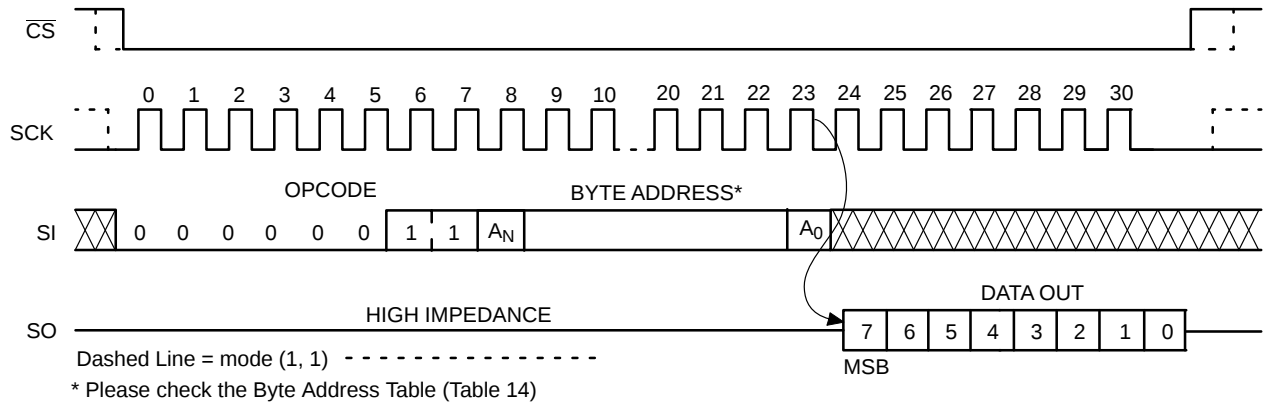

Figure 9. READ Timing
After receiving the last address bit, the CAT25256 will respond by shifting out data on the SO pin (as shown in Figure 9). Sequentially stored data can be read out by simply continuing to run the clock. The internal address pointer is automatically incremented to the next higher address as data is shifted out. After reaching the highest memory address, the address counter “rolls over” to the lowest memory address, and the read cycle can be continued indefinitely. The read operation is terminated by taking $\overline{\text{CS}}$ high.
Reading the additional 64-byte Identification Page (IP) is achieved using the same Read command sequence as used for Read from main memory array (Figure 9). **The IPL bit from the Status Register must be set (IPL = 1) before attempting to read from the IP.** The [A5:A0] are the address significant bits that point to the data byte shifted out on the SO pin. If the CS continues to be held low, the internal